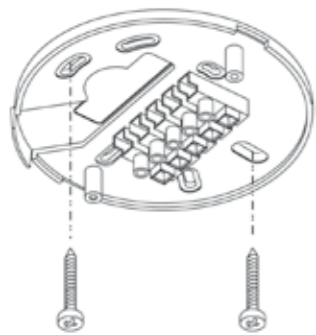

Fig. 10
3.3.7 There is a pattern of slots on the bottom case that should enable the fixing holes of the previous unit to be used. Fasten bottom case onto the ceiling with wood screws (see Fig. 10).